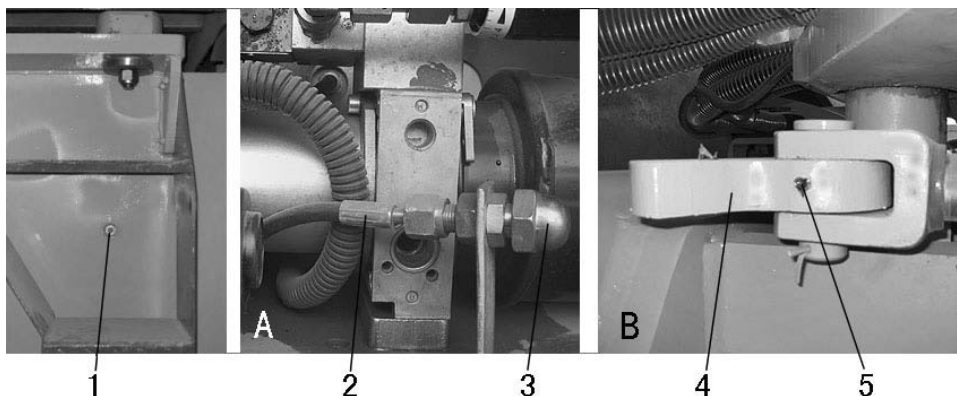

Figure 3-13
3.4.2.3 Lubricate the parts of the steering cylinder (figure 3-13)